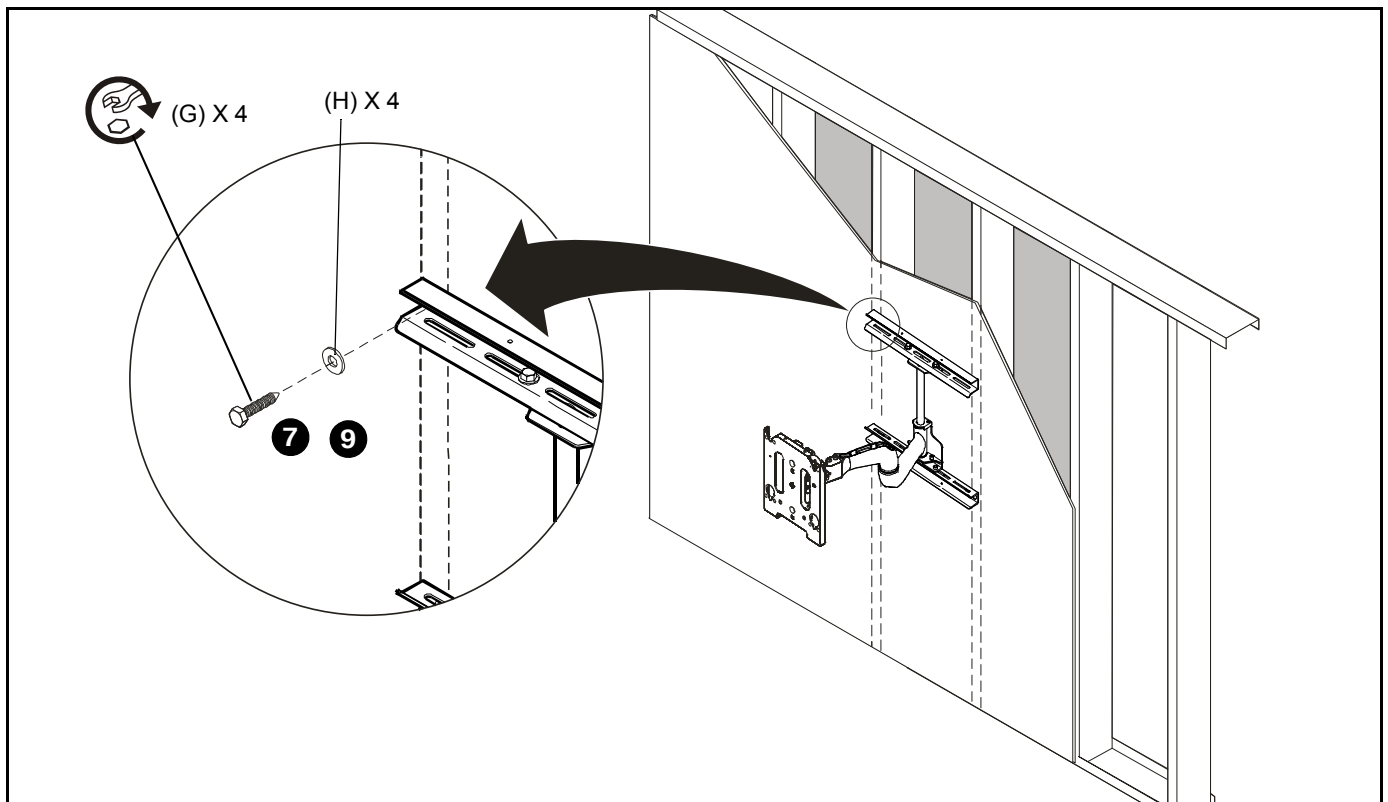

Figure 3
7. Install two 5/16" x 2-1/2" lag bolts (G) and two 5/16" flat washers (H), through upper wall channel and into pilot holes. DO NOT tighten at this time. (See Figure 3)
9. Install two 5/16" x 2-1/2" lag bolts (G) and two 5/16" flat washers (H), through mounting holes in lower wall channel and into pilot holes. (See Figure 3)